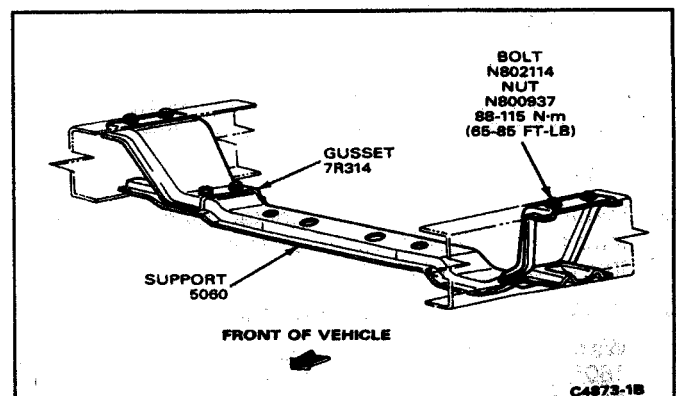

FIG. 3 Crossmember Installation—F-250—F-350 (4x4)
5. Install the bolts attaching the front U-joint of the coupling shaft to the transmission output shaft flange. Tighten the bolts and nuts to specifications as listed in the specifications of Section 15-60, Driveshaft—Single Snap Ring Type U-Joint. Install the transmission rear support and upper and lower absorbers (Fig. 3).
14. Remove the ten bolts that hold the rear support bracket to the transmission (Fig. 3).
3. Place the rear support bracket in position and install the eight retaining bolts (Fig. 3).
4. Install the two bolts at the rear support insulator bracket (Fig. 3). Remove the transmission jack.